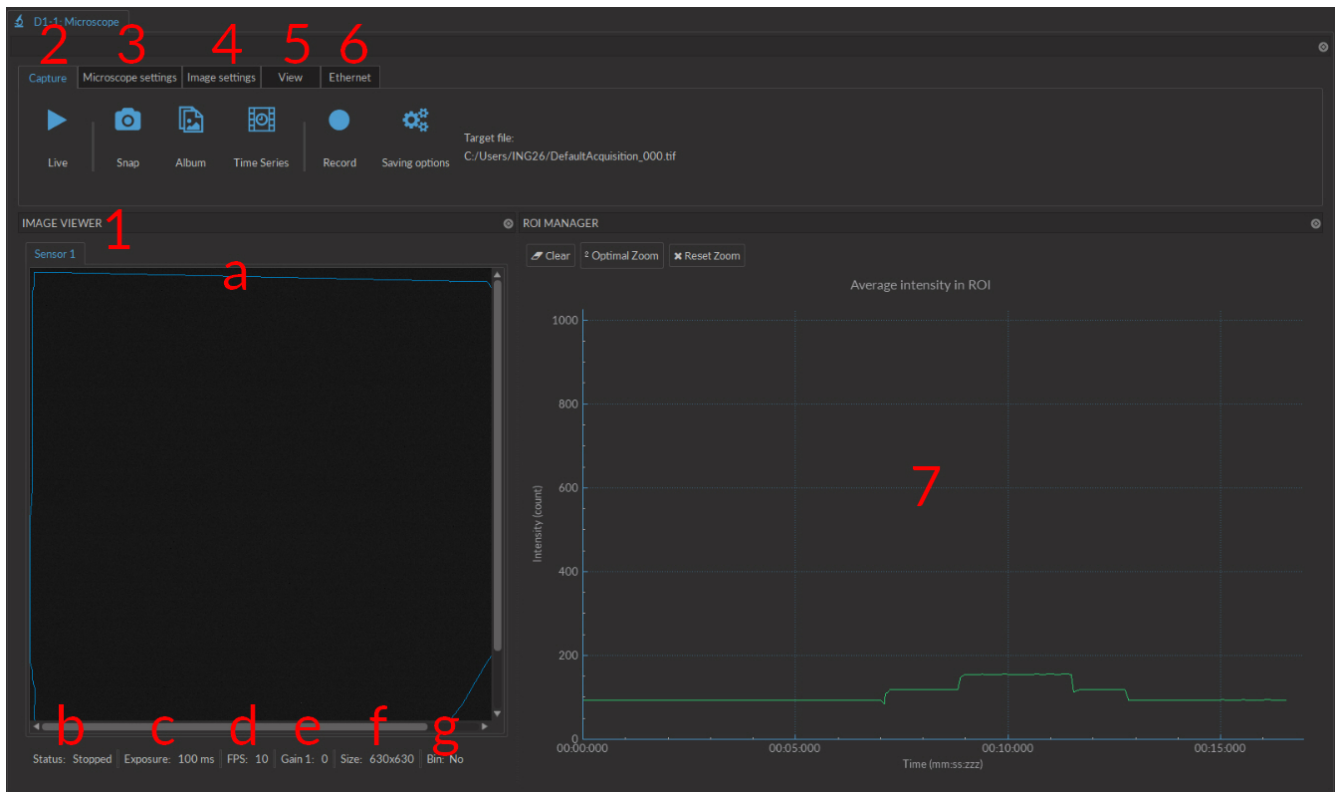

Figure 3.48: Microscope Module Interface
Below is the user interface (Fig. 3.48) and a complete description of all the functions.
1. The **Image Box** (Fig. 3.48) displays images from the microscope and allows region of interest (ROI) drawing by clicking and dragging the mouse over the image.
- a) The **Sensor Tabs** (Fig. 3.48) display the sensors available to view. For multi-sensor microscopes, changing tabs allows you to see the image available to each.
- b) The microscope **Status** (Fig. 3.48) will indicate the current microscope state (Live/Stopped).
- c) The **Exposure** (in ms) (Fig. 3.48) indicates the exposure time of the microscope sensor.
- d) The **FPS** (Frames Per Second) (Fig. 3.48) indicates the number of frames per second taken by the sensor.
- e) The **Gain** (Fig. 3.48) indicates the electrical gain of the sensor.
- f) The **Size** (Fig. 3.48) indicates the resolution of the sensor images (in Pixels x Pixels).
- g) The **Bin** (Fig. 3.48) status indicates whether or not the sensor image is being binned (yes/no).
2. The **Capture** tab (Fig. 3.48) contains different image-capturing functions of the microscope.
4. The **Image settings** tab (Fig. 3.48) is used to define certain settings related to the displayed and recorded images.
5. The **View** tab (Fig. 3.48) is used to change viewing parameters of the sensor image. These changes will only appear on the sensor image when a new **Capture** sequence is started. Any adjustments made affect only the displayed image and not the recorded images.
6. The **Ethernet** tab (Fig. 3.48) is used to define the ethernet connection used to connect the computer to the microscope driver.
7. The **ROI Manager** (Fig. 3.48) displays the live mean pixel intensity from a drawn ROI.